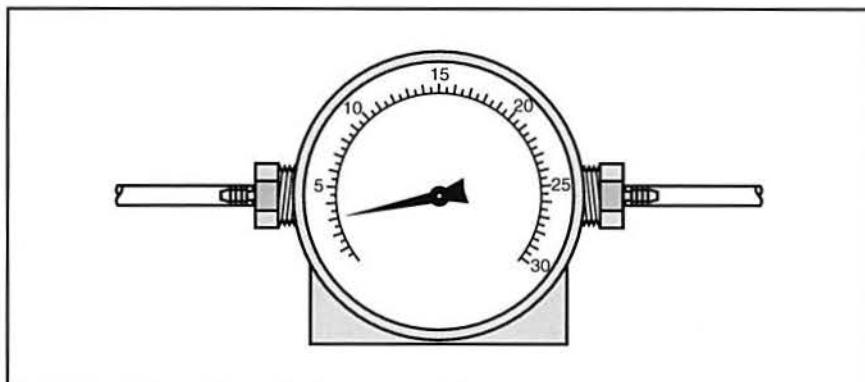

Figure 26. Adjust Zero Adjustment until Gauge Indicates 3 psi (Outside Scale)
- D. Use a small slotted screwdriver to adjust the zero adjustment screw until the gauge on the I/P converter indicates 3 psi, as figure 26 shows.